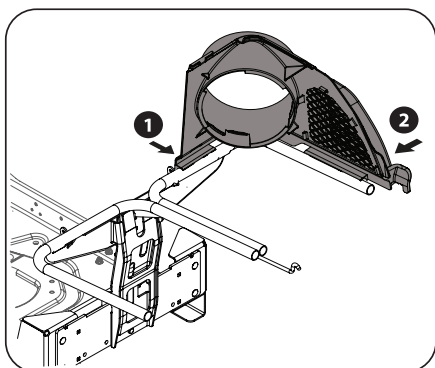

Figure 4-6
1. Tilt the front of the upper chute support (631-05491) slightly forward. Slide the clip behind the tab, then snap the front latch to the rail, as shown in (1) of Figure 4-6.
2. Snap the upper chute support in place by first clipping the side portion onto the bagger support rail. See (2) in Figure 4-6.